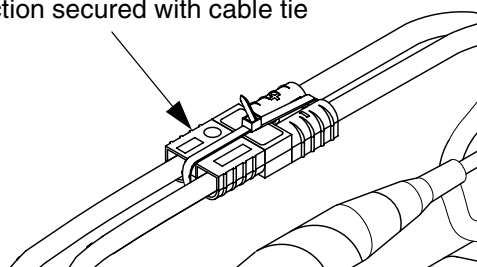

FIG. 12: Hose Connection (step e)
- e. Plug in Power-Lock™ hose heat connectors. Secure connection with cable tie provided; failure to do so will disrupt hose heat system if connectors separate. See FIG. 12